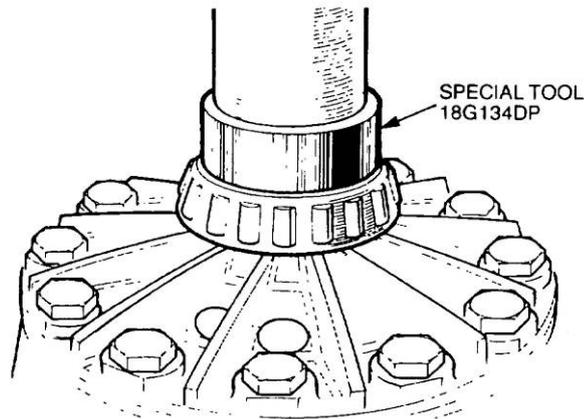

Figure 236 Installation of the Differential Bearing Cones
- c. Using special tool 18G134DP and a suitable press, install the bearing cones onto the differential assembly (Figure 236). Do not install the shims at this stage.